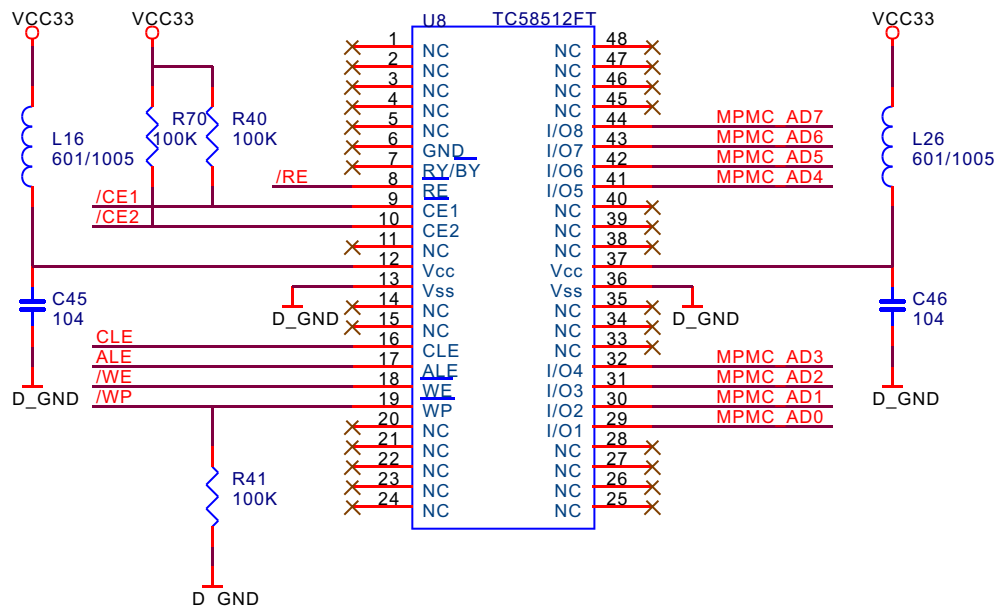

Figure 3.2.1.1 Flash circuit principle diagram
1.FLASH circuit principle is shown in figure 3.2.1.1: